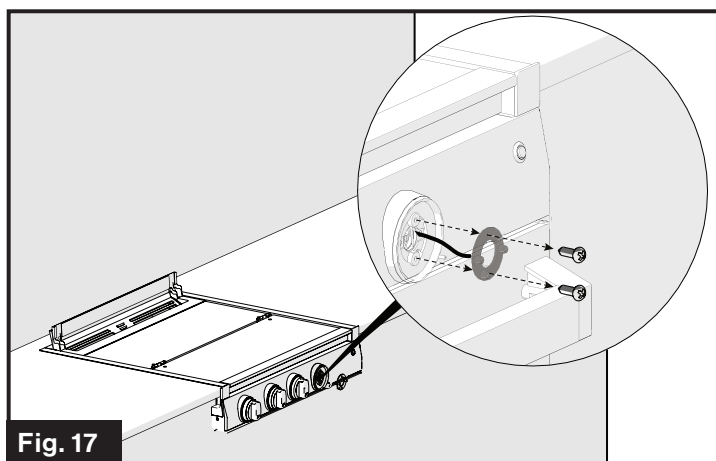

Fig. 17
3. Remove the two screws holding the LED light using a Phillips screwdriver. (Fig. 17)